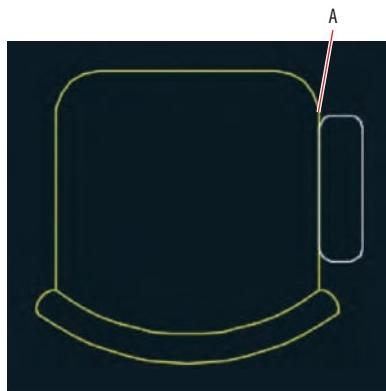

FIGURE 7.21 Drawing an armrest
3. For the first corner, click point A shown in Figure 7.21. Then type **@3,-10** (or **@7,-25** for metric) and press Enter to complete the RECTANGLE command.